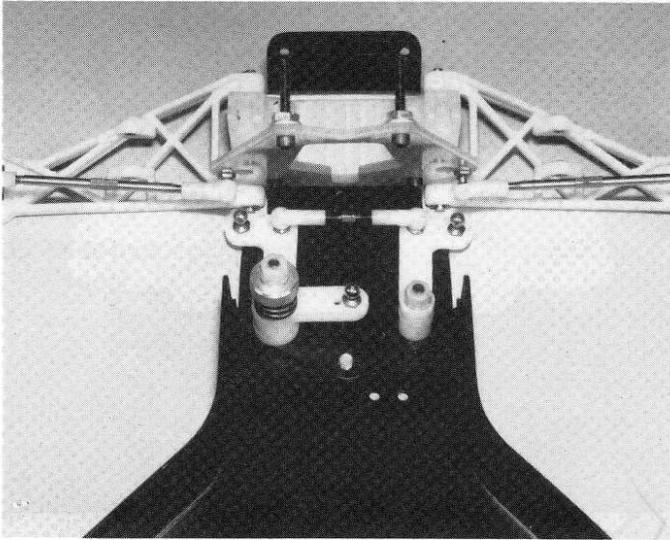

Fig. 28
□ **Fig. 28** Slip the servo saver assembly down onto the two long screws and screw on the two 4-40 nylon nuts. Screw the nuts down just enough so that there isn't any excessive up and down play in the servo saver, but NOT TOO TIGHT. The servo saver arms should be free to swing to the left and right VERY FREELY. The servo saver arms should be parallel.